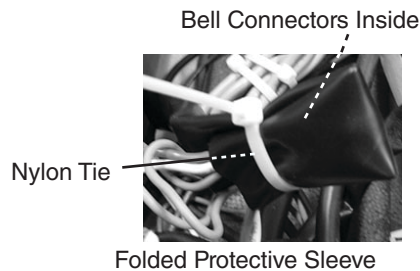

Fig. 13
- 8) Locate and remove the folded plastic sleeve to gain access to the wires and bell connectors. See Fig. 13.